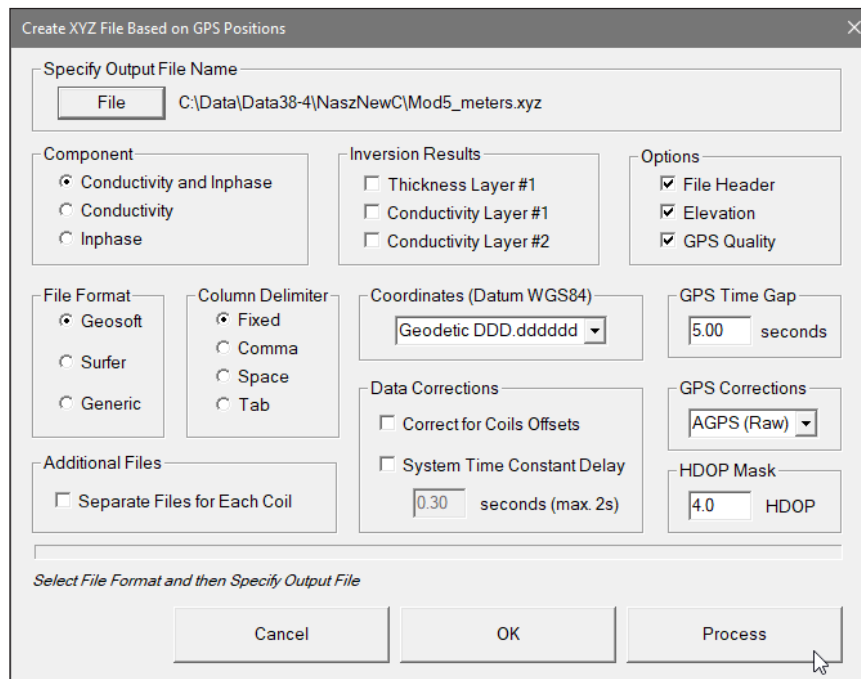

Figure 7.9 Create XYZ File Based on GPS Positions dialog after Output File name is specified
- Specify the file name, click **Save**, and the name appears in the dialog (Figure 7.9). The **Proceed** button is then activated.